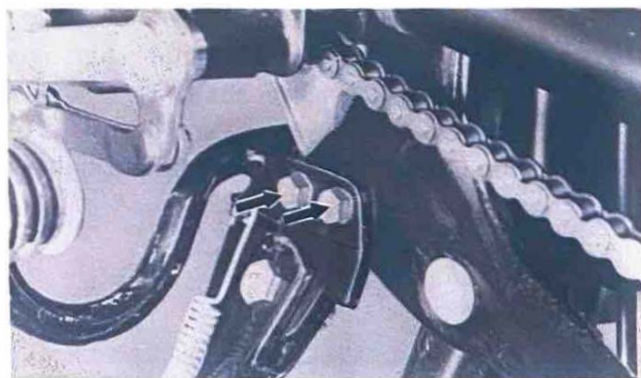

Fig. 36
- (2) Insert the footrest bracket into the frame bracket from under the frame. Then install the footrest with two 8 mm bolts. (Fig. 36)